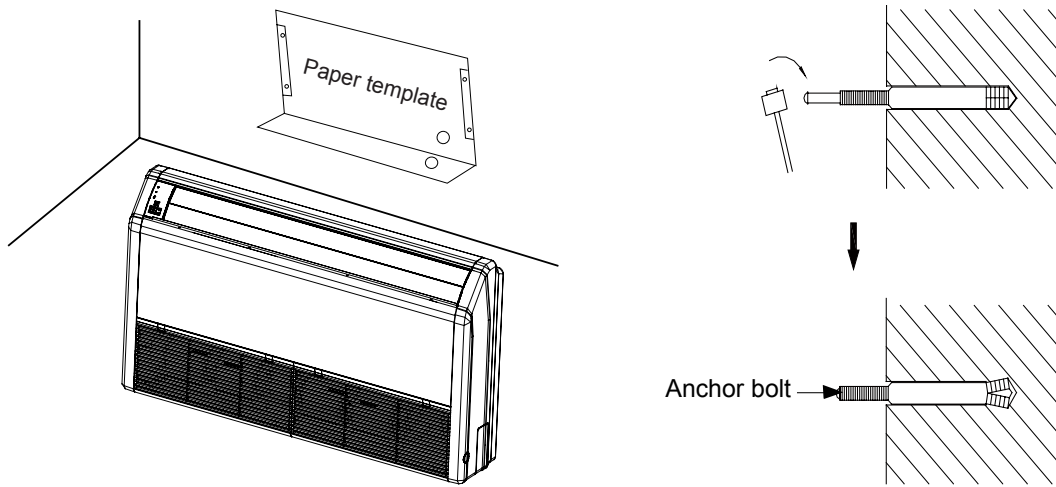

Fig 4.1.2.1
- (1) Determine the location of the hanger through the paper pattern for installation, and then remove the paper pattern, as shown in the left fig of Fig 4.1.2.1.
- (2) Insert the expansion bolts into the drilled holes, and drive the iron nail into the bolt with a hammer, as shown in the right fig of Fig 4.1.2.1.